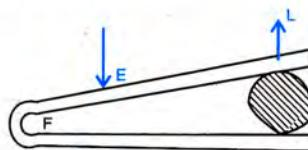

Fig. 3.10 Coal tongs.
- (a) Fig. 3.10 shows a fire tongs in which the effort E is in between the load L and fulcrum F. This belongs to class III type of levers.